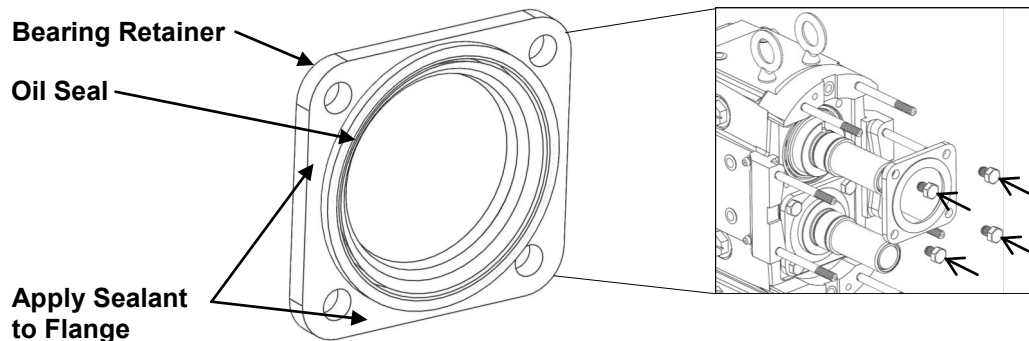

Figure 49: Bearing Retainer Installation
6) Once the correct backface clearance is achieved, fill all bearings with grease through the fittings on the mounting pads until grease is noticeable around the bearing assemblies. The shafts should be rotated during this initial greasing to distribute the grease evenly. Apply a light film of lubricant to the inside and outside diameters of the oil seals and install them into the bearing retainers. Apply a silicone sealant to the outside flanges on the bearing retainer (Figure 49). Once the silicone sealant is applied, install the bearing retainers onto the gear case.